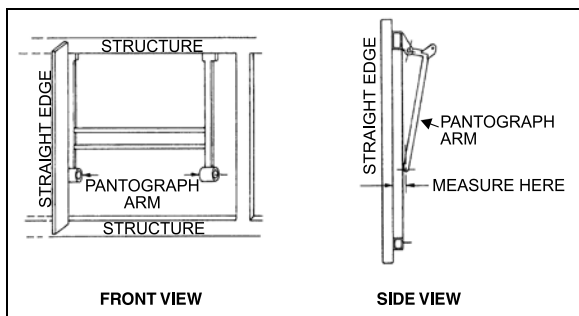
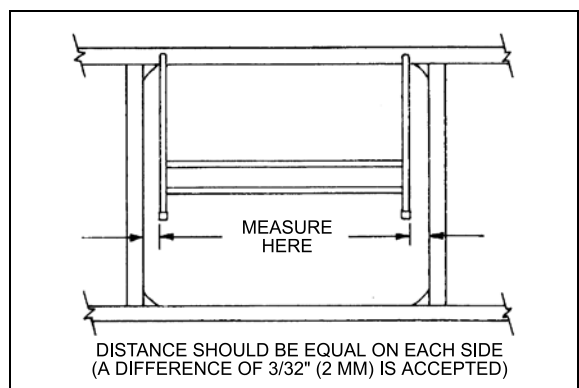

FIGURE 67: PANTOGRAPH DOOR ADJUSTMENT
FIGURE 68: PANTOGRAPH DOOR ADJUSTMENT
Measure distance between a pantograph arm end and a straight edge resting on structure. Repeat procedure for the other arm. The distance on each side should be equal. If not, bend appropriate arm until desired measure is obtained (Figure 67 & Figure 68).
5. When the door is straight, remove the 2x4's and check door operation and fit. A difference of  $\frac{3}{32}$ " (2mm) between both sides is accepted (Figure 68).
3. If the door is too far inside, adjust using a rubber mallet (Refer to figure 68).